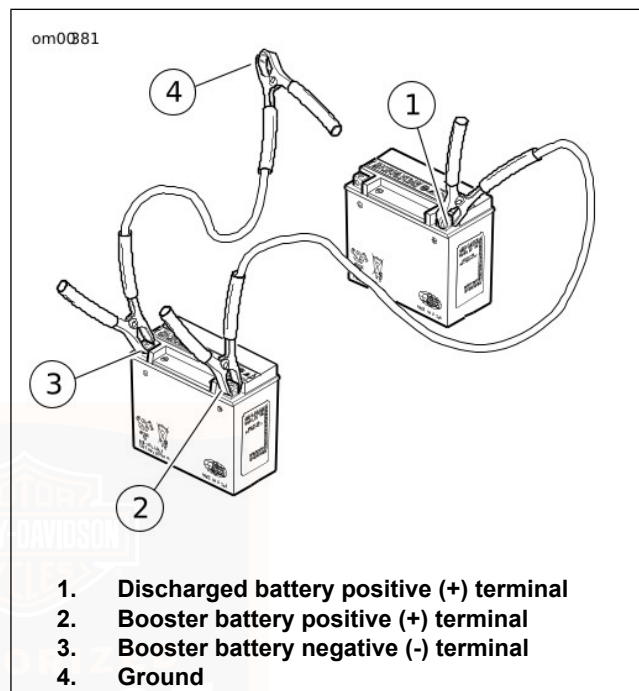

Figure 62. Jump Start Cable Connections
1. See Figure 62. Connect one end of a jumper cable to the DISCHARGED battery positive (+) terminal (1).
2. Connect the other end of the same cable to the BOOSTER battery positive (+) terminal (2).